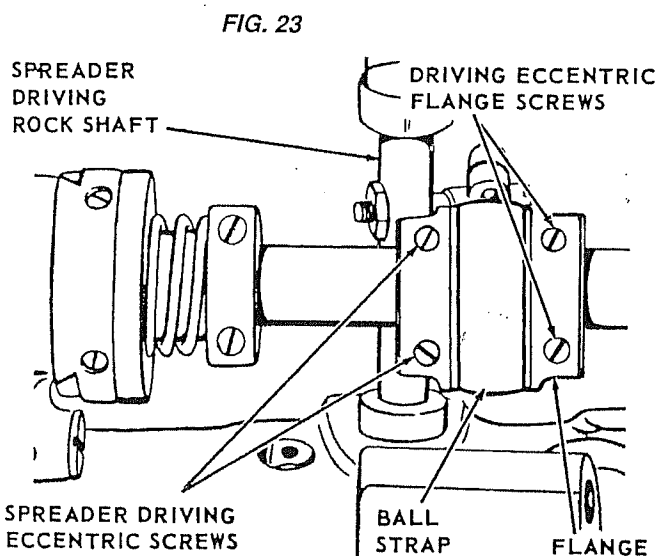

FIG. 23
The sidewise movement of the spreader may be adjusted for sewing under abnormal conditions. Under normal conditions, maximum spreader movement is generally used. To adjust, tilt machine back on its hinges, loosen the two spreader driving eccentric screws, Fig. 23, and the two spreader driving eccentric flange screws. Move eccentric to left to increase movement, or to right to decrease movement. When correctly positioned, tighten the two spreader driving eccentric screws first, hold flange against strap and tighten flange screws. Then refer to preceding information regarding positioning of spreader.
**CAUTION:** When increasing sidewise movement, allow sufficient clearance between spreader driving rock shaft, Fig. 23, and left side of eccentric ball strap. They should not touch when eccentric ball stud is in its highest position.